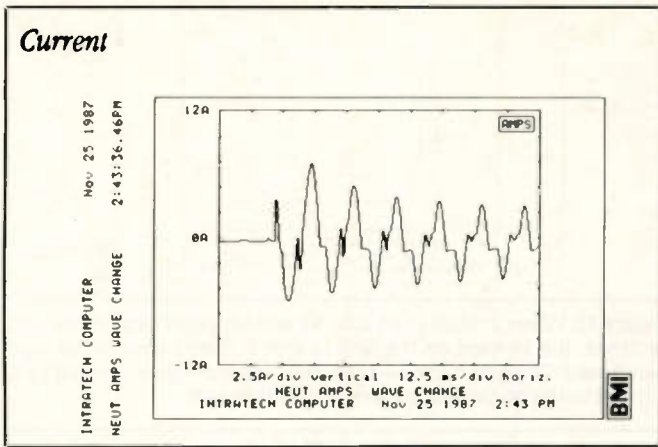

Figure 7.
6. Electronic loads draw current in pulses, rather than in sinewaves, so it's important to look at current waveshapes when diagnosing power problems. See Figure 7.